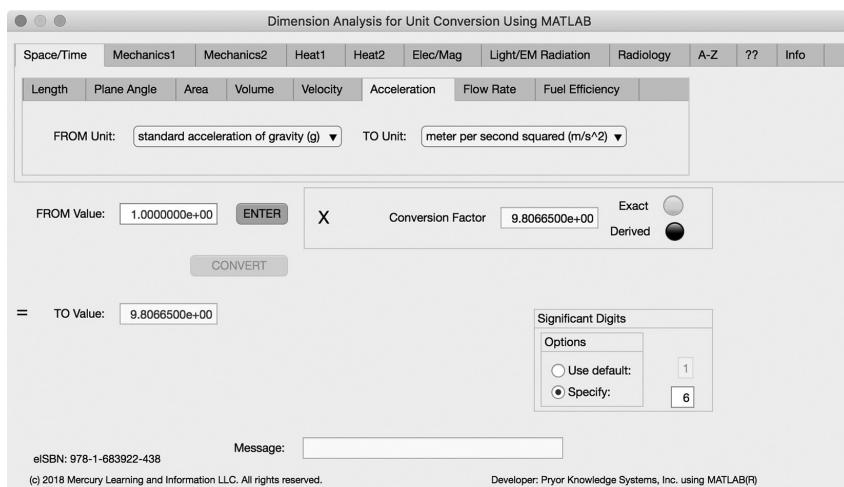

FIGURE C.3 Acceleration screen after conversion.
- g. The TO Value displays as 9.8066500E+00 (See Fig C.3).